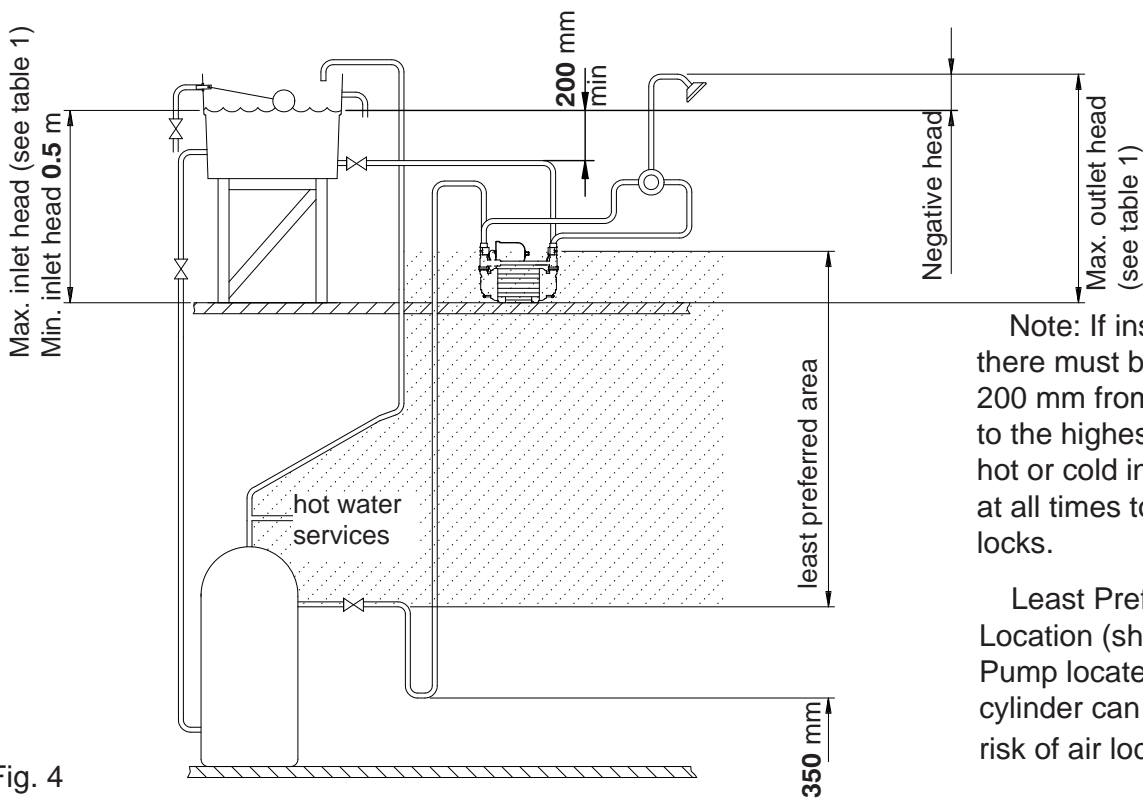

Fig. 4
- 1) A "U" bend or downward loop in the supply pipe to the pump of 350 mm depth before rising to the pump should ensure the cylinder vents its air up the expansion pipe not up the pump feed (Fig. 4).